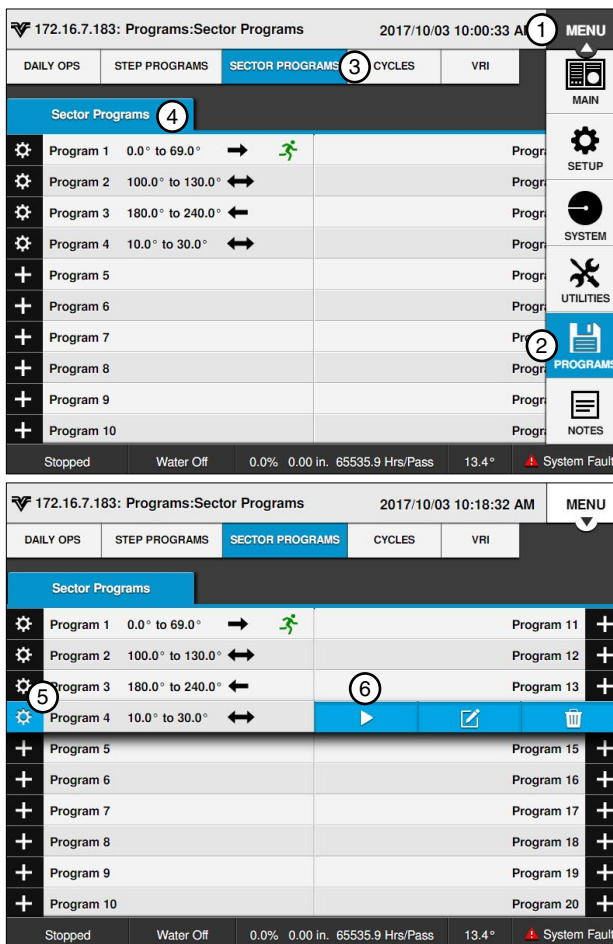

Figure 140-1 1. Menu
1. Push **Menu**, **Programs**, and **Sector Programs** to view the Sector Programs screen. Refer to Figure 140-1.
3. Push the **Run** button to run the selected program. Refer to Figure 140-1.